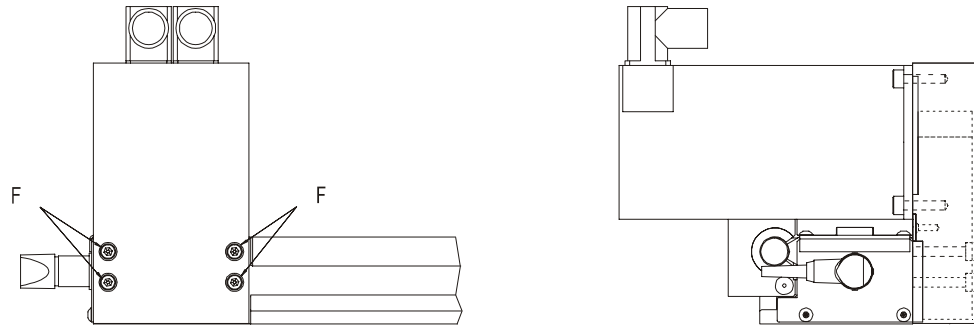

Figure 18: Linear Unit and Belt Drive, Variation 1
- Undo the motor flange fastening screws (F). The flange can then be moved gently towards the basic body. The toothed belt is relaxed (see Figure 18).
- Press the motor away from the basic body. The toothed gear belt is tensioned. Then tighten screws (see *Figure 18, F*) securely.